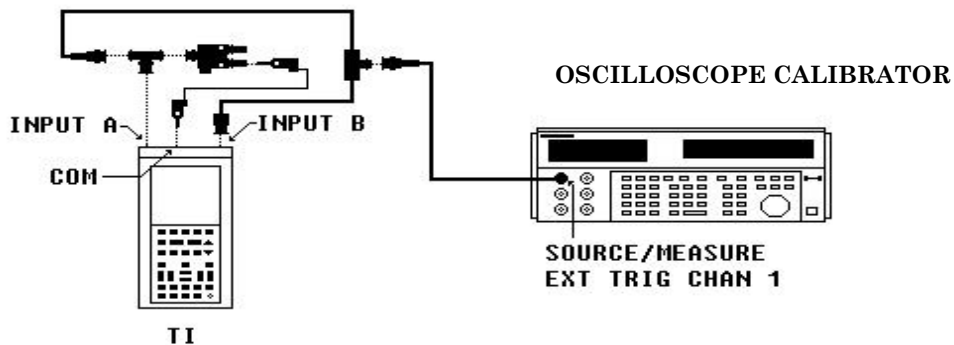

Figure 10. Attenuation and gain.
- (11) Toggle ▲ or ▼ to display/highlight (▼ or ▼ CAL 5).
- (12) Press (F5) READY, then wait till display/highlight READY is not highlighted.
- (13) Connect equipment as shown in figure 10 below: